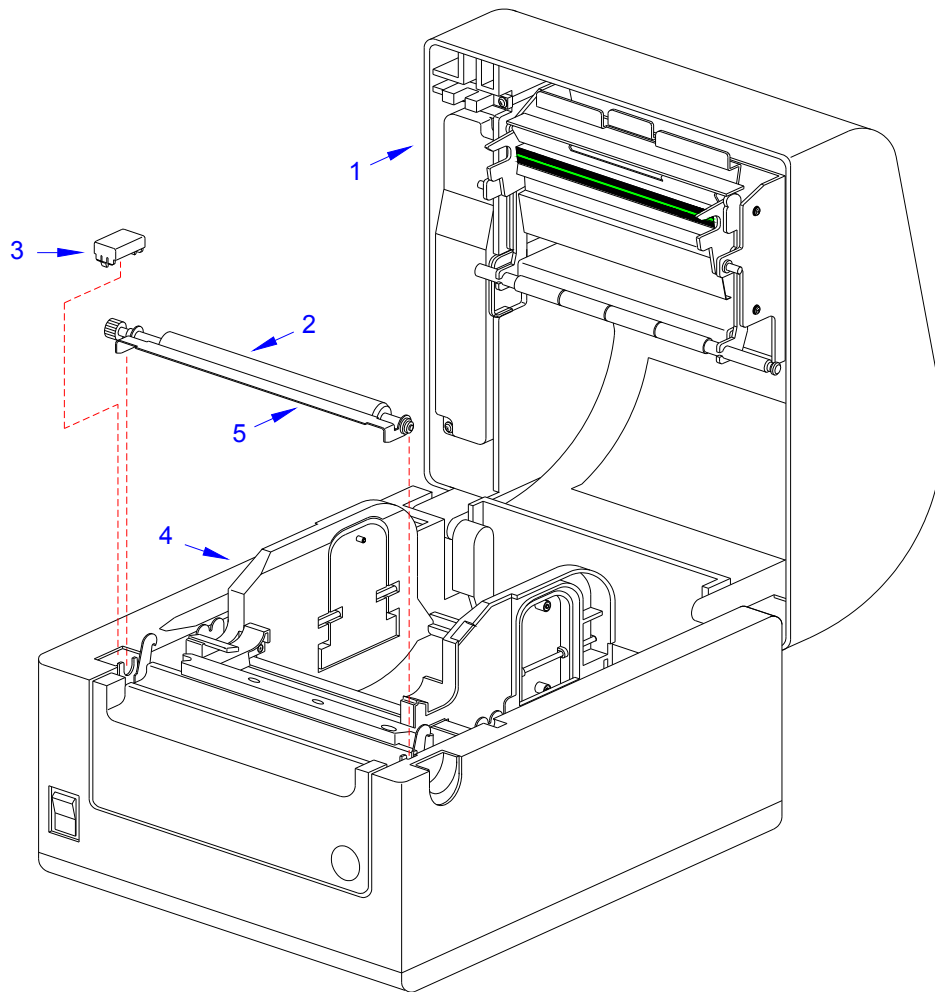

Figure 4-2, Platen Roller Replacement
- 2 Lift up the top housing cover (1) (See Figure 4-2) to access the platen roller (2).
- 3 Detach the platen gear cover (3) from the printer housing (4).
- 4 Lift the dispenser bar (5) upward and away from the assembly (2, 5).
- 5 Install a replacement platen roller assembly (5, 2) to the housing (4).
- 6 Lower the dispenser bar (5) and reattach the gear cover (3).